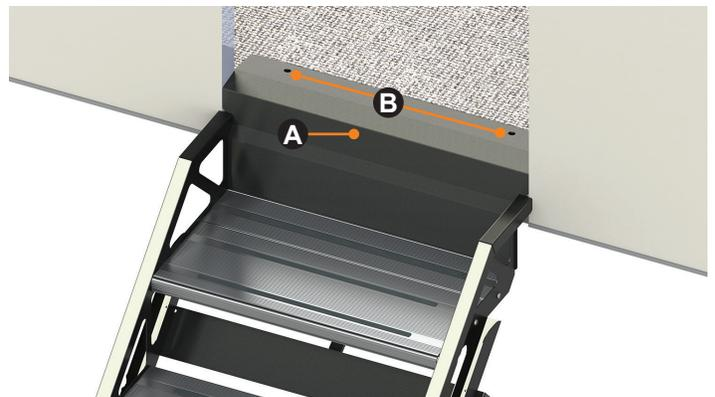

Fig.1
3. With the step assembly in the extended position (**Fig.1**), install 2 fasteners, either #10 - 1 1/2" self-tapping screws (laminated floor), or #10 - 1 1/2" wood screws (wood floor) into the mounting plate via the 2 access holes (**Fig.1B**) located in the top of the mounting plate.